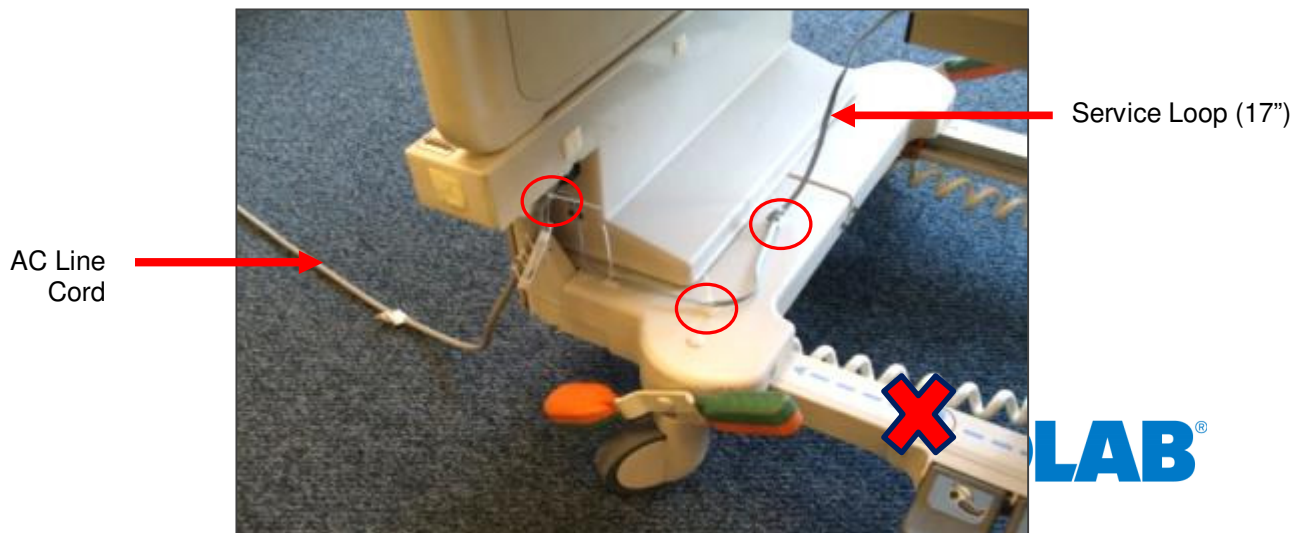

Figure 8. AC Line Power Sensor Cable Routing and Cable Tie Holder Placement
2. Place cable tie holders and route the **AC Line Power Sensor** cable along the inside rail and tie down any excess cable (service loop) as shown (see *Figure 8*).